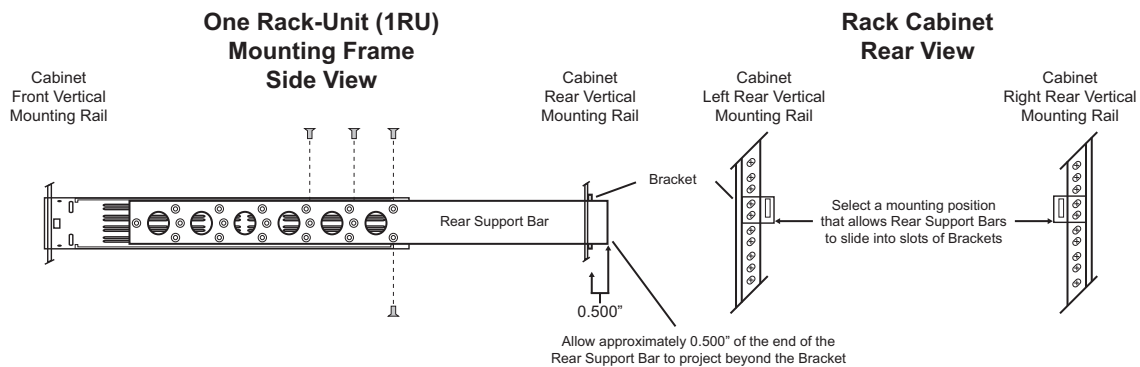

Figure 2.1 Installing the Support Brackets
In some cases, (mobile trucks, etc.) it may be desirable to also support the rear of the ACO-4400. The rear support bars can be attached to the ACO-4400 in six possible positions. (Figure 2.1)
2. Using four screws per bracket, as shown in **Figure 2.1**, attach both bars.